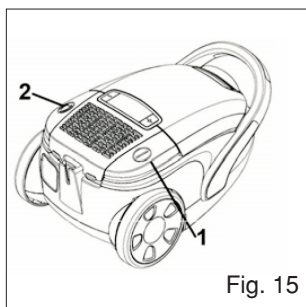

Fig. 15
1) Switch off the vacuum cleaner with the on/off switch (Fig. 15/1) and pull the plug from the mains socket.
3) To retract the power cord, push the cord retracting button (Fig. 15/2)